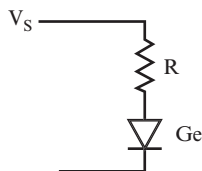

FIGURE 2.36
7. In the circuit shown in Figure 2.36, $V_s = 10$ volts and $R = 100$ ohms. Find the current through the diode, assuming a perfect diode. _____